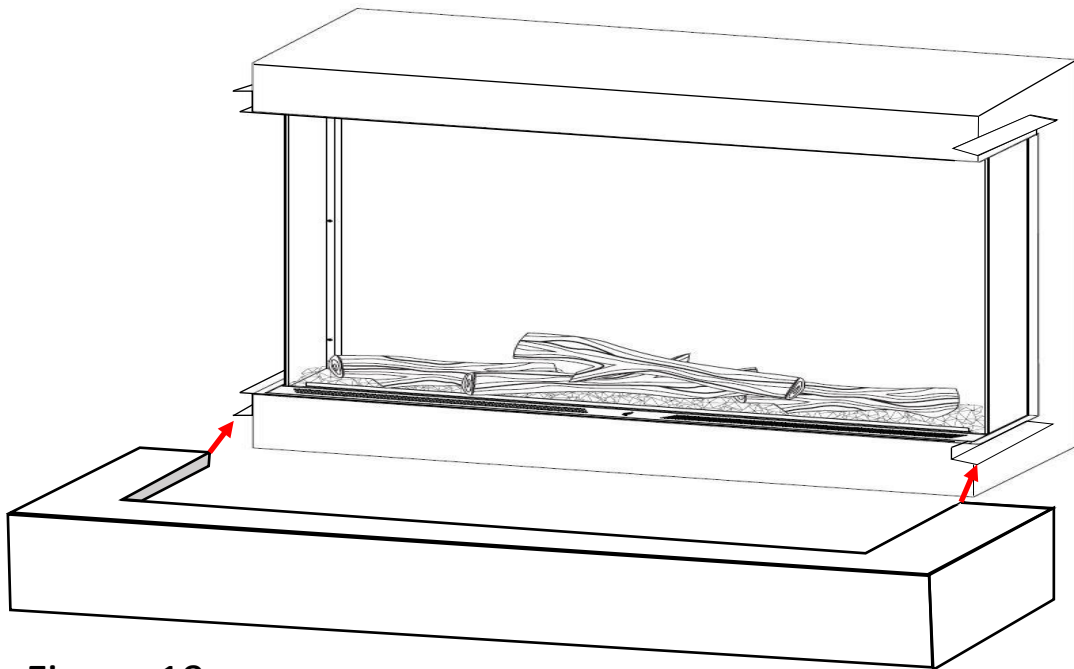

Figure 19
- Secure the bottom cabinet and align left and right onto brackets, *see figure 19*. Cabinet will slide in between the bracket and drywall stops. **MAKE SURE TO INSERT CABINET LEVEL & EVENLY TO AVOID DAMAGING CABINET. IF TOO TIGHT REMOVE CABINET, LOOSEN BRACKETS, MAKE SPACING LARGER AND RE-TIGHTEN BRACKETS; THEN RETRY.**